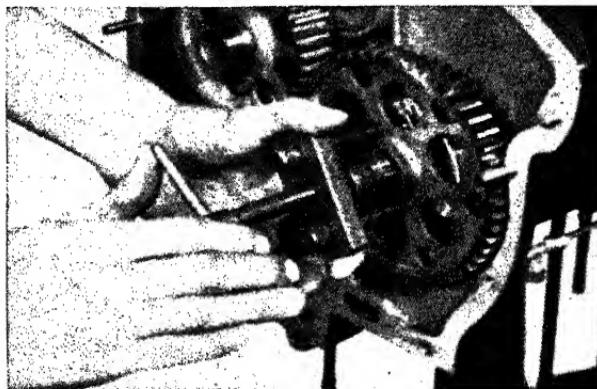

FIG. 14.—Pulling the camshaft gear.
*Camshaft and Gear.*—First remove the camshaft nut and the camshaft gear, using a gear puller. The gear is provided with two holes in the web for that purpose. The holes are 2 in. apart and are tapped  $\frac{5}{16}$ -24 (see Fig. 14).